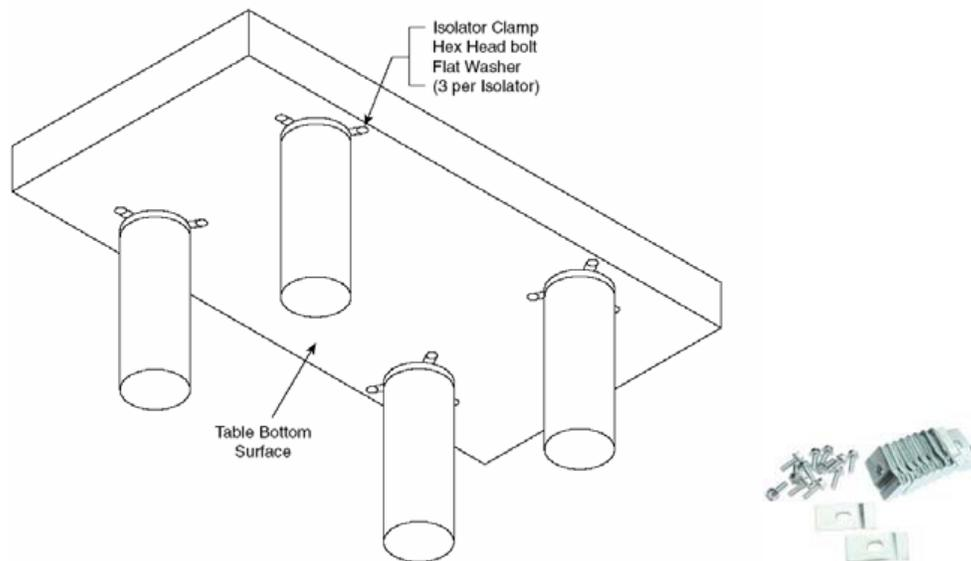

Figure 2 — Isolator Clamps and Mounting Holes
1. With the isolators located as described in Section 3.1.2, raise the table top and position it above the isolators. Be sure each isolator is centered within the tapped three-hole patterns on the lower surface of the table (Figure 2).
3. Install three isolator clamps in the corners where each isolator is located (Figure 2). Loosely secure the clamps with the bolts. Do not tighten the clamps at this time.